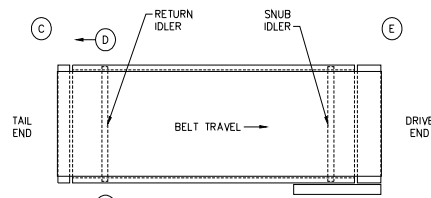

Figure 4
| <p>1) When belt is running toward drive pulley: (See "Figure 4")</p> <ul style="list-style-type: none"> • If belt runs to right side (A) of tail pulley, move right side (B) of return idler toward tail pulley. • If belt runs to the left side of tail pulley (C) move left side (D) of idler back towards tail pulley. • If belt runs off right side of drive pulley (G) but is centered on tail pulley, move drive pulley out slightly on right side (G) using squaring adjustment. • If belt runs off left side of drive pulley (E) move left side of drive pulley (E) out. <p>2) When belt is running toward tail pulley: (See "Figure 5")</p> <ul style="list-style-type: none"> • If belt runs to right side (E) of drive pulley, move right side (F) of snub roller toward drive pulley. | <p>2) continued</p> <ul style="list-style-type: none"> • If belt runs to left side (G) of drive pulley, move left side (H) of snub roller toward drive pulley. • If belt runs to left side of tail pulley (A) but is centered on drive pulley, move left side of tail pulley (A) out slightly using adjusting screws provided. • If belt runs to right side of tail pulley (C) but is centered on drive pulley, move right side of tail pulley (C) out. • Follow same procedure for conveyor with center drive. • IMPORTANT NOTE: When making adjustments on snub and return idlers and pulleys, make adjustments in small increments (1/16" to 1/8" and give belt time to react before adjusting further. |